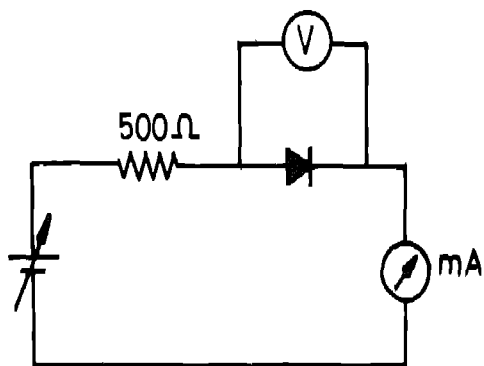

Fig. 6.2 (a)
*Procedure* 1 To find the forward characteristics of a diode, connect the circuit as shown in Fig. 6.2 (a)